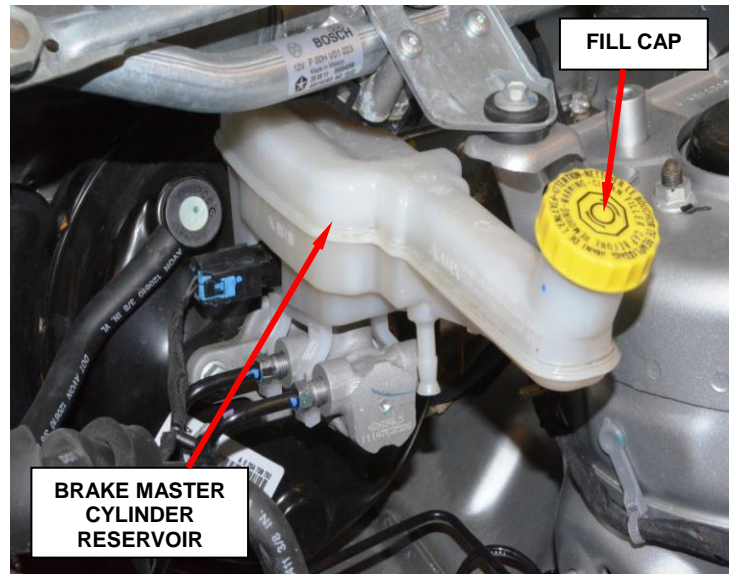

Figure 25 – Master Cylinder Reservoir
78. Fill the brake master cylinder reservoir with Mopar D.O.T. 3 brake fluid (Figure 25).